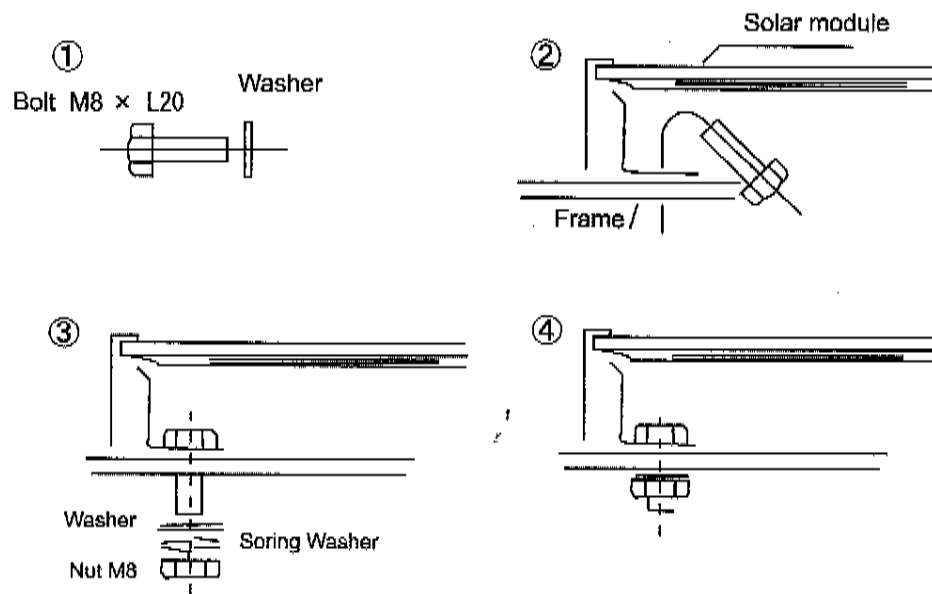

Figure 6
The modules may be fastened to a support using the bolt holes in the bottom of the frame at location "C", as shown in Figure 1 (back view of the module) and Figure 6 (mounting detail). The module should be fastened with four (4) M8 (5/16") bolts. The mounting method is designed to allow module loading of 2400 Pa. Take care during installation to not block the drain holes (D) shown in Figure 1.